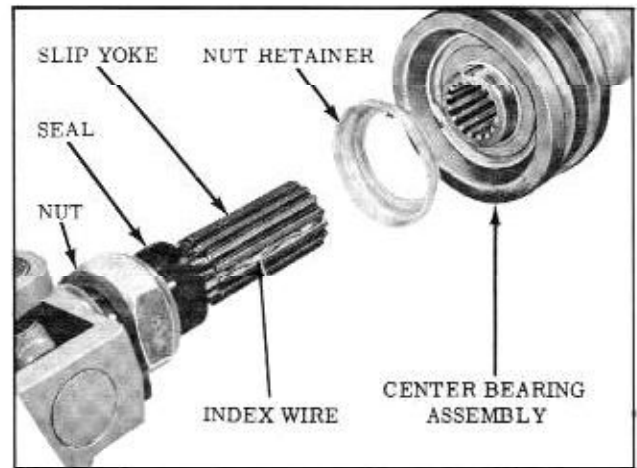

Fig. 6-33 Disassembly of Slip Yoke
NOTE: Watch for index wire in one spline of slip yoke. It is important that this wire be kept in same spline. (Fig. 6-33) Remove nut retainer and rear spacer.
2. Place rear spacer, then nut retainer on the front propeller shaft with the tang of the retainer indexing the slot of the propeller shaft. The cupped side of the nut retainer must face rearward. (Fig. 6-33)